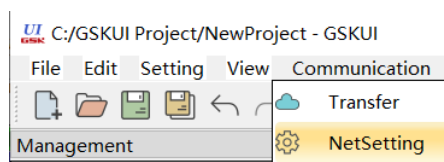

Fig. 1-86
- (10) After setting the properties, click "OK" to complete the settings; click "Cancel" to invalidate the property settings modified this time.
- (11) Repeat the above operations to add and edit other controls or pages.
- (12) After editing, the local project on the computer can be transferred to the system via network transmission or USB flash drive transmission. Network transmission is used here as an example.
- (13) Ensure that the network connection between the computer and the system is normal.
- (14) Click "Communication -> NetSetting", as shown in Figure 1-86.